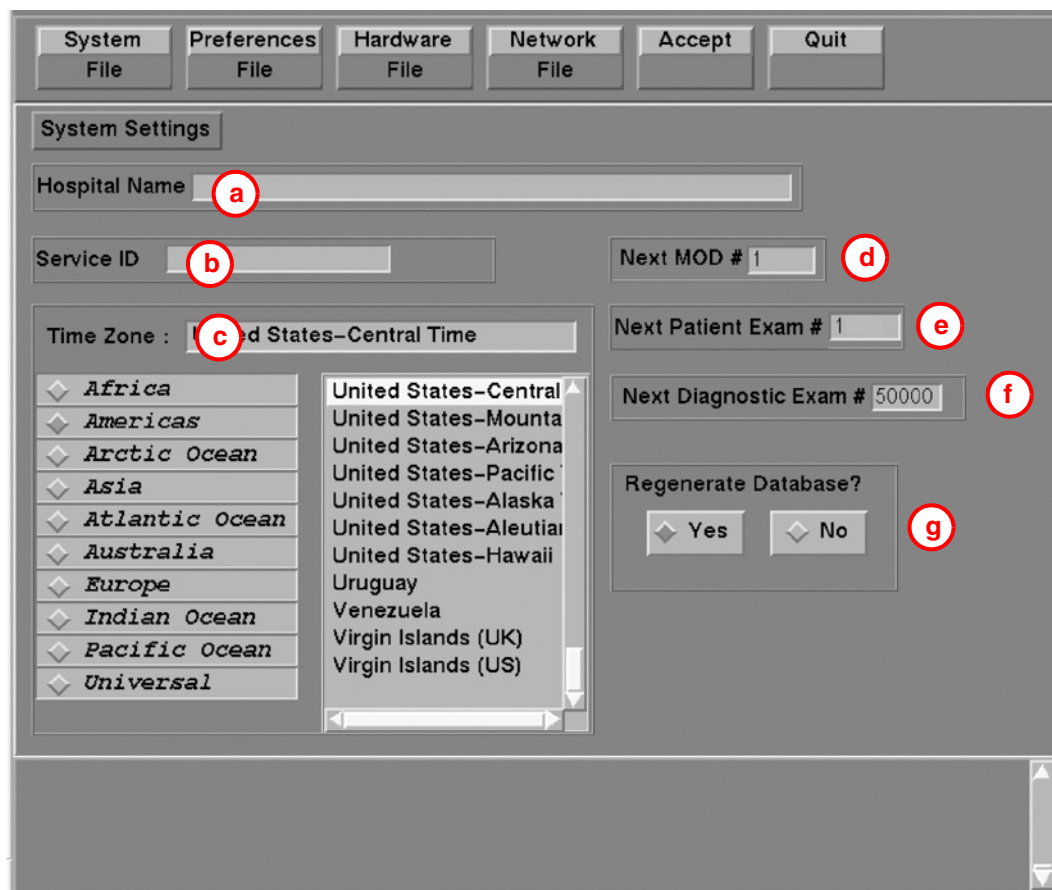

Figure 6-12 System Settings Screen
The OC displays the LightSpeed System Configuration - System Settings Screen as shown in Figure 6-12.
4.) Configure System Settings (refer to Figure 6-12)